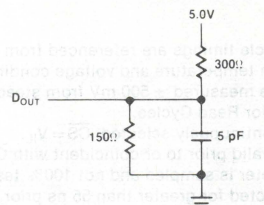

Figure 2. Output Load for t_{HZ}, t_{LZ}, t_{WZ}, t_{OW}
3. Transition is measured ± 500 mV from steady state voltage with specified loading in Figure 2.